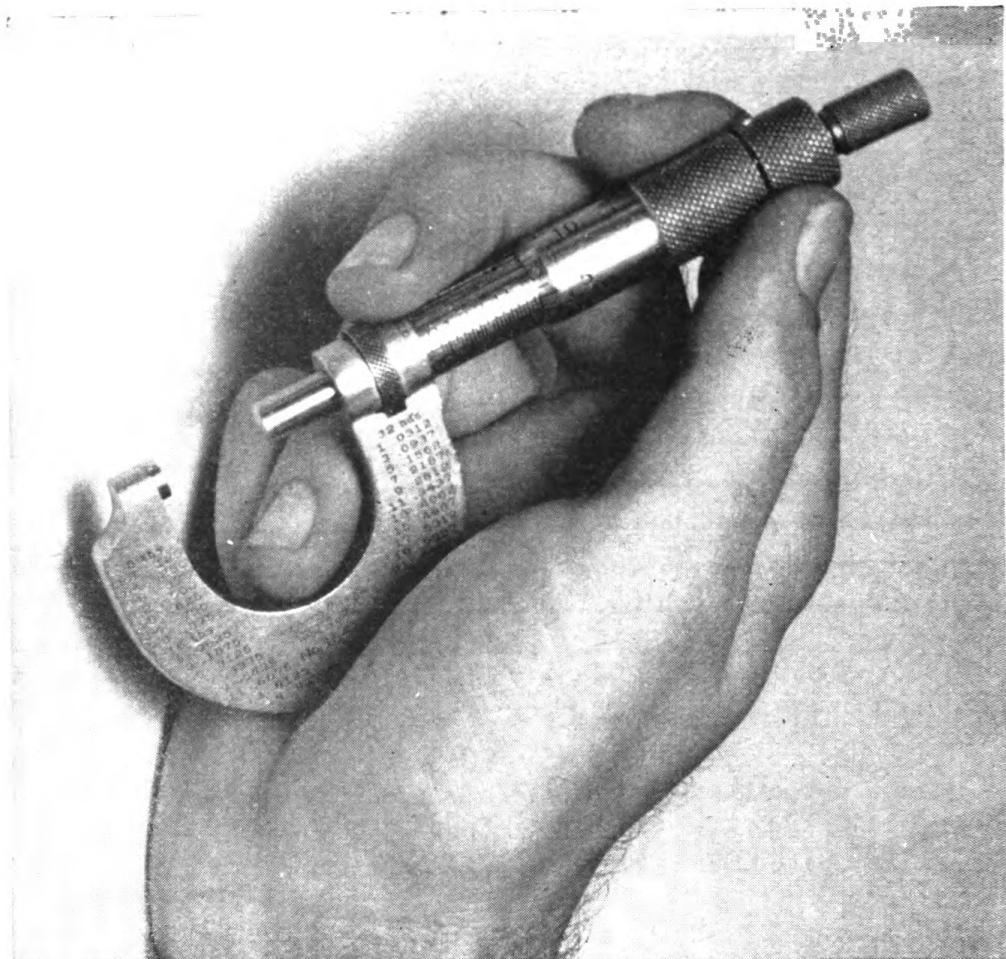

Figure 77. Correct way to hold a small micrometer.
f. USE AND CARE. (1) The first step in using a micrometer is holding it correctly. It should be held as shown in figure 77. This leaves one hand free to hold the stock that is being measured. On large work the micrometer is held in both hands. The thumb and first finger are used to turn the thimble until the anvil and spindle just touch the stock. Only a very slight tension should be applied, and it should be the same every time the micrometer is used. It is rather easy to spring a micrometer $1/1,000$ inch and thereby get an inaccurate reading. Many micrometers have a ratchet on the end of the thimble which will slip when the tension becomes great enough. This is an aid to the beginner since it prevents overtightening. The spindle of the micrometer should always